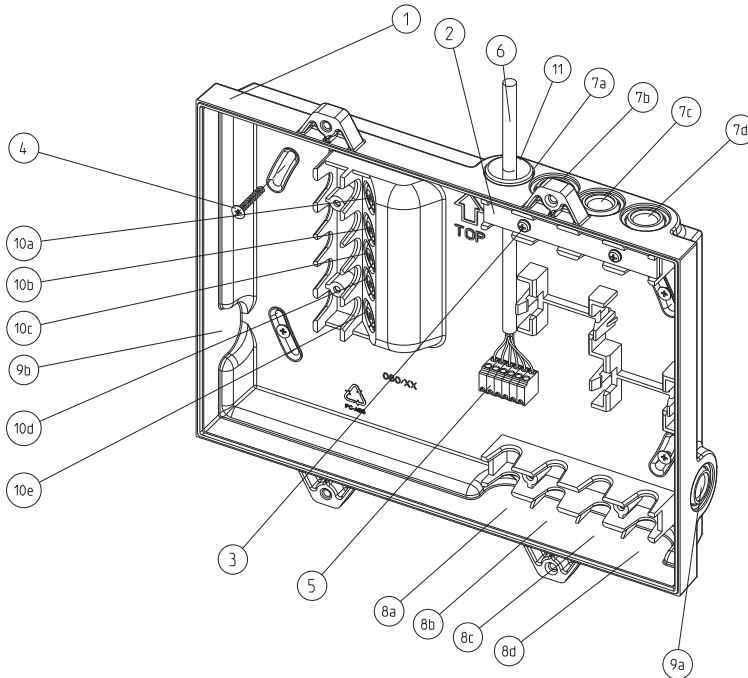

Fig. 5: Inside View of Deep Back Cover Mounting Kit - To be mounted with zonal display
as required around the outline on the deep back cover (1), depending on the direction of the cables going into or out of the deep back cover. Refer to Fig. 5.